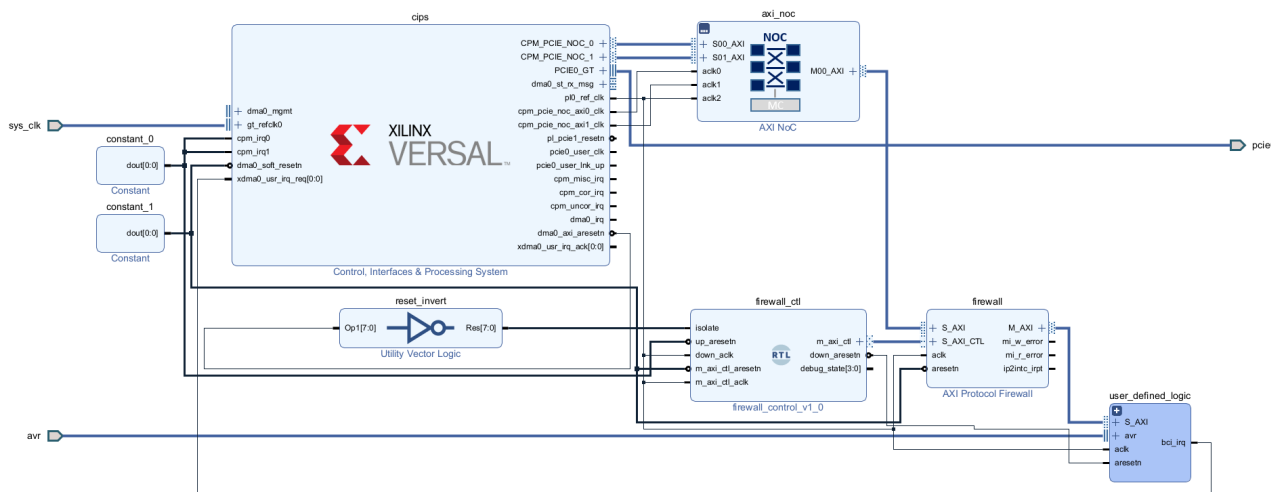

Figure 7: CPM PCIe block diagram design with isolator between reset domains
Figure 7 shows a Vivado block diagram design that places an instance of the AXI Firewall IP between the NoC and user-defined logic.
- Whenever the firewall is in the “Block” state, the firewall controller passes the upstream reset (`up_aresetn`) through to the downstream reset (`down_aresetn`). The downstream reset is the reset for the user-defined logic. In Figure 7, `up_aresetn` is tied low (asserted) so that the user-defined logic is held in reset while the firewall is in the “Block” state.
For this reason, a free-running clock, or at least one that is not affected by `PERST#`, may be a better choice for clocking user-defined logic in some applications. For example, in Figure 7, `pl0_ref_clk` (from the CIPS IP) is used.